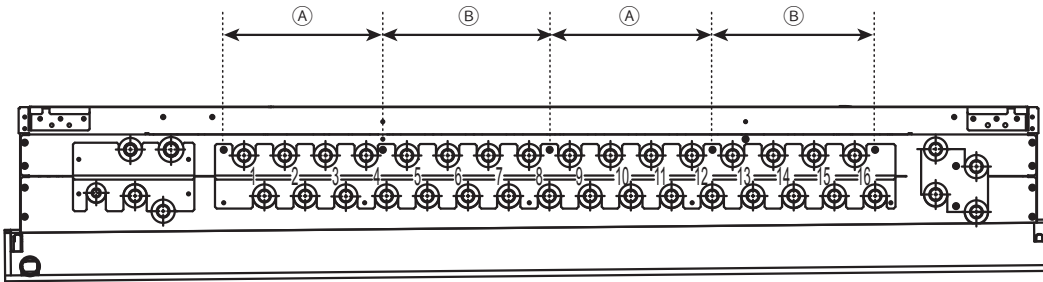

Fig. 9-4-2
- When connecting Joint Pipe Kits to HBC ports, the branched sides of the Joint Pipe Kits cannot be connected to combinations of ports "4 and 5," "8 and 9," or "12 and 13." (See Fig. 9-4-2.)
- HBC controller has two pumps. Each pump can accommodate the capacity of indoor units equivalent to P175. Make sure that the total capacity of the indoor units connected to "ports 1 through 4 and 9 through 12" or "5 through 8 and 13 through 16" will not exceed P175. (See Fig. 9-4-2.)
(1) Refrigerant pipe between outdoor unit and HBC controller (A, A1, A2, and A3)